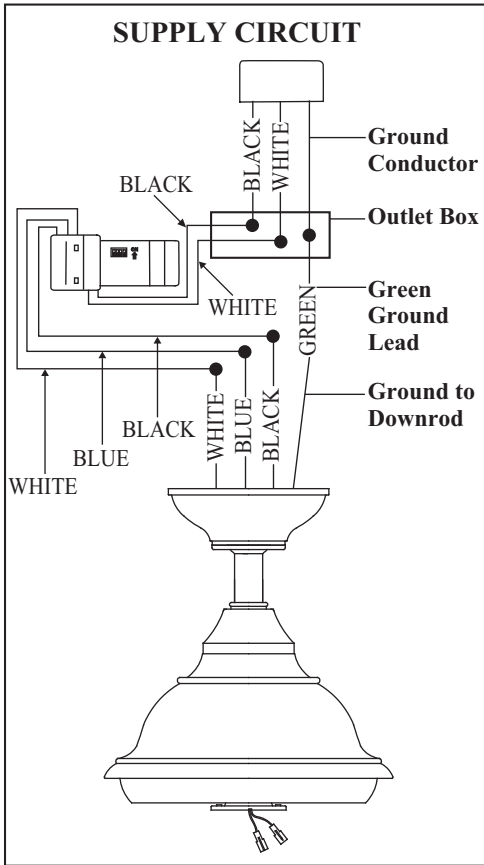

Figure 11
2. (Fig. 11) Motor to receiver electrical connections: Connect the black wire from the fan to black wire marked "TO MOTOR L". Connect the white wire from the fan to the white wire marked "TO MOTOR N" from the receiver. Connect the blue wire from the fan to the blue wire marked "For Light" from the receiver. Secure the wire connections with the plastic wire connecting nuts provided.
3. (Figure 11) Receiver to house supply wires electrical connections: Connect the black (hot) wire from the ceiling to the black wire marked "AC in L" from the receiver. Connect the white (neutral) wire from the ceiling to the white wire marked "AC in N" from the receiver. Secure the wire connections with the plastic wire connecting nuts provided.
4. (Figure 11) If your outlet box has a ground wire (green or bare copper) connect it to the fan ground wires; otherwise connect the hanging bracket ground wire to the mounting bracket. Secure the wire connection with a plastic wire connecting nut provided. After connecting the wires spread them apart so that the green and white wires are on one side of the outlet box and black and blue wires are on the other side. Carefully tuck the wire connections up into the outlet box.